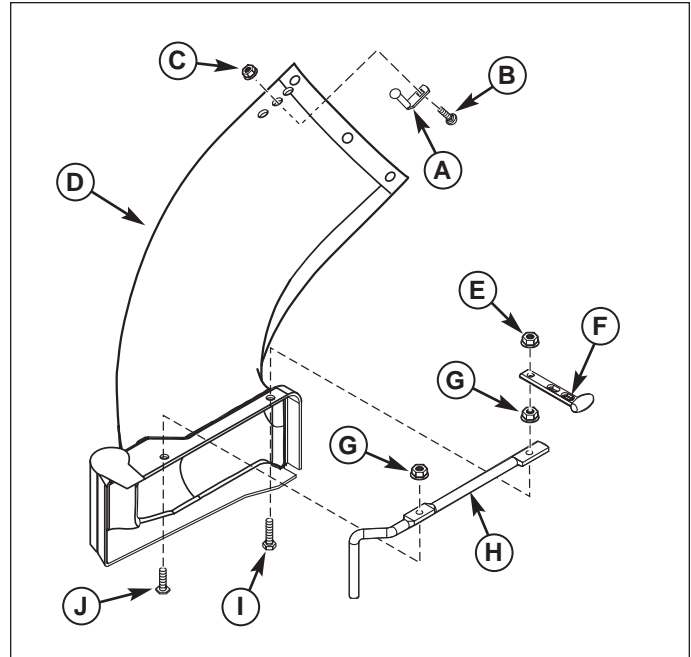

Figure 6. Lower Chute to Boot Installation
1. Insert the head of pin (A, Figure 6) through front hole of lower chute (D). Secure with 1/4-20 x 5/8 carriage bolt (B) and 1/4-20 lock nut (C) as shown.
2. Install the rod (H) to lower chute (D) using 5/16-18 x 1 capscrew (J) and 5/16-18 locknut (G) for front holes. Use 5/16-18 x 1-1/4 capscrew (I) and 5/16-18 locknut (G) as shown. Tighten hardware.
3. Install the rubber strap (F) onto capscrew (I) securing with 5/16-18 locknut as shown.